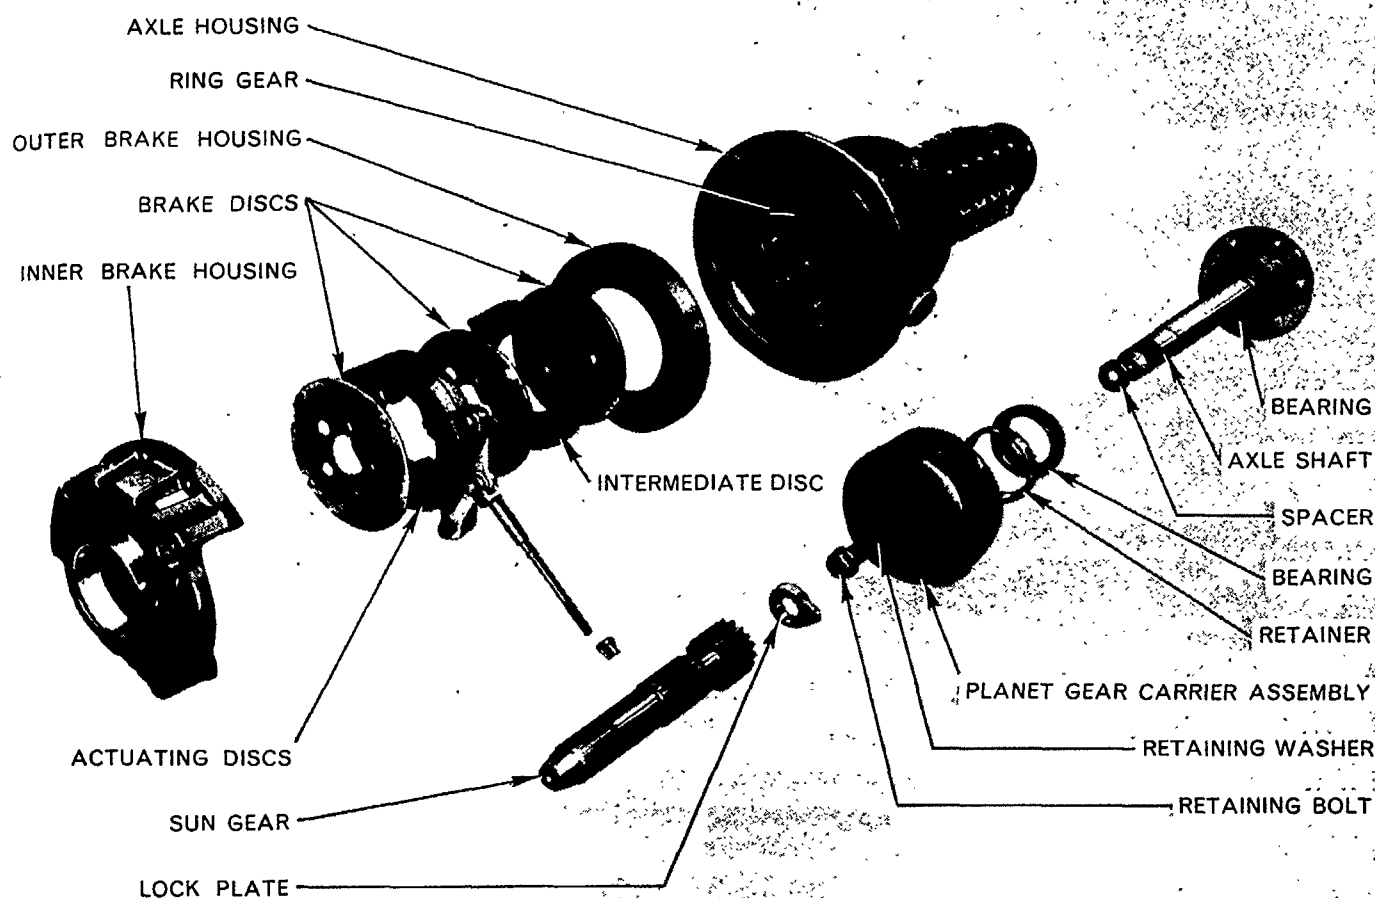

Figure 43
10. Separate the seal retainer, Figure 43, from the end of the axle housing, by tapping down the staking with a copper drift and hammer. Lift the axle housing off the axle shaft and wheel.